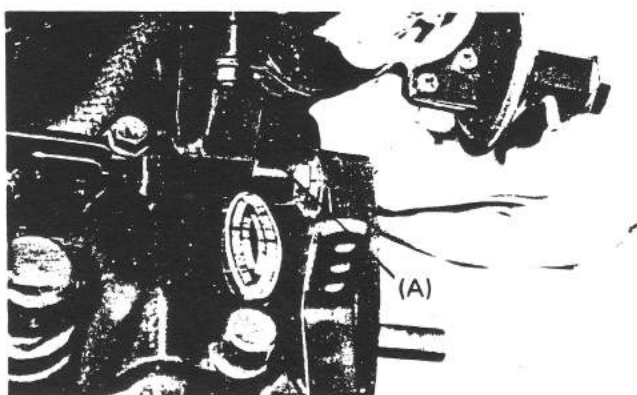

Fig. 143
- b. Secure the governor together with the spacer (A) in Fig. 143 to the timing chain cover with bolts and nuts.